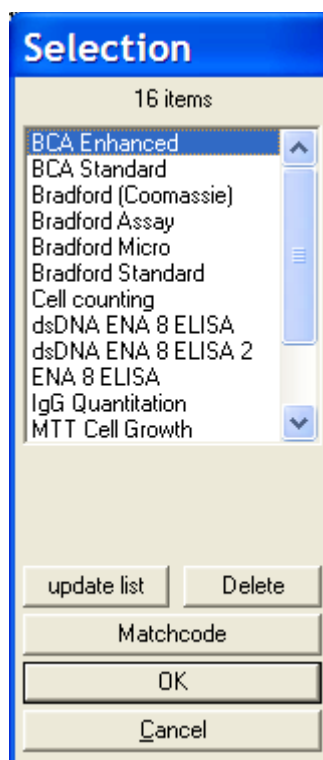

Figure 5-10: Select test to export
3. In Import/Export Test Definition, choose **Export from Database**. Selection appears (Figure 5-10).